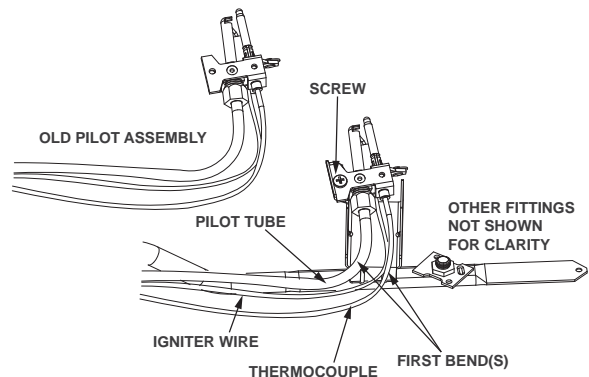

FIGURE 27.
4. Remove and keep the screw securing the pilot assembly to the pilot bracket. (Figure 27)
6. Using the old pilot/pilot tube assembly as a guide, bend the new pilot tube and new thermocouple to match the old ones. **NOTE:** Make only the bends closest to the pilot before going to the next step. (Figure 27)